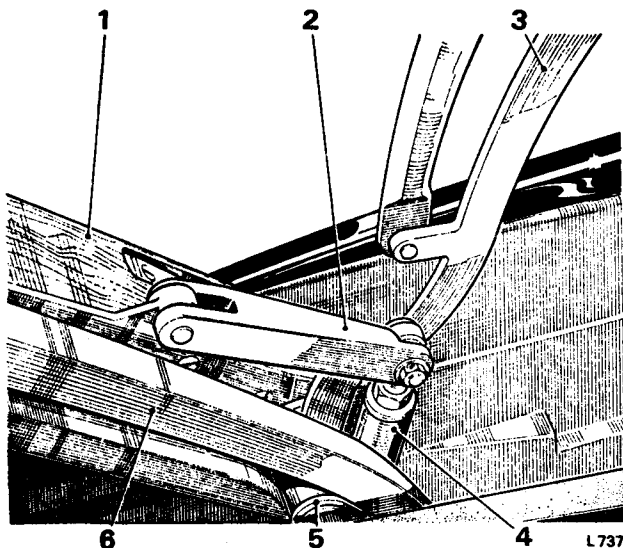

FIG. S76 HOOD LINKAGE TO RAM
Remove the bolt securing the ram eye bolt to the head link. Secure the hood to the windscreen upper rail with the safety catches. Slacken the bolt and nut securing the ram to the body; do not remove the bolt. Slacken the ram eye bolt lock-nut (see Fig. S76) and adjust the length of the eye bolt until the bolt securing the eye bolt to the head link can be fitted; fit and tighten the bolt. Tighten the eye bolt lock-nut and the bolt securing the ram to the car body.
Hood folding mechanism side assembly**—To remove***(see Fig. S76)*
7. Remove the bolt securing the hood rear cross-member to the main head plate on the main mounting bracket (*see Fig. S76*).
8. Remove the split pin from the nut and remove the nut and bolt securing the link to the ram eye bolt (*see Fig. S76*).
9. Remove the bolts securing the main hood mechanism mounting brackets to the quarter panels (*see Fig. S76*); remove the side assembly.